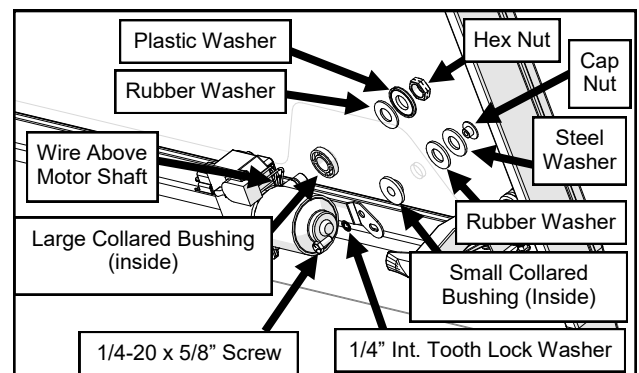

Fig. 14.1 (Windshield Wiper Motor)
14.1 Mount the wiper motor to the windshield. See Figure 14.1. Make sure the wires are above the wiper motor shaft to prevent pinching the wires when the windshield is opened and closed, then connect to the wire harness.